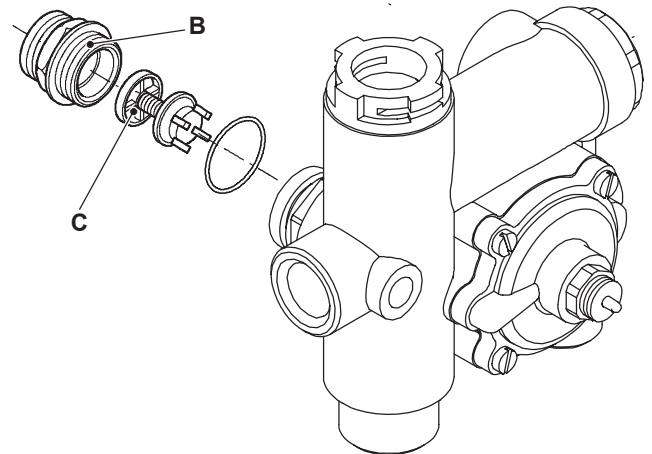

Figure 16.2
- 4 Unscrew the connector B and remove the by-pass valve C (Figure 16.2).
- 4 Reassemble the by-pass valve as illustrated in Figure 16.2 reversing the order of removal.